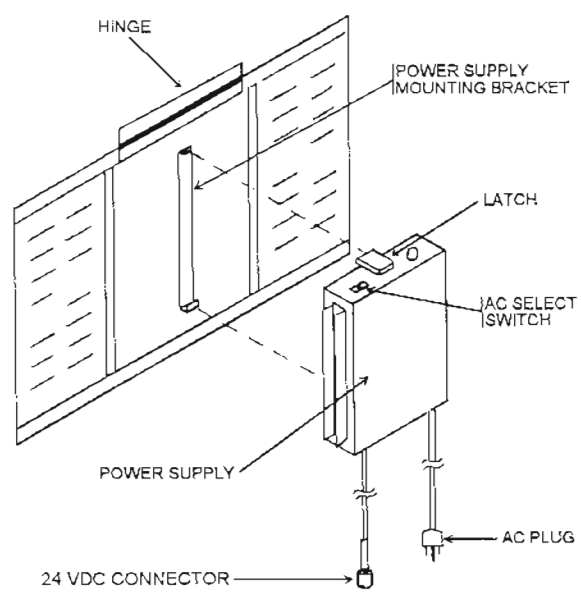

Figure 3-12. Power supply.
a. The rectifier signed specifically to provide the power to operate the refrigerator from a 120 VAC or 220 VAC, 50/60 Hz in sheltered environments. The input voltage is selectable by the AC select switch of the power supply (fig 3-12).